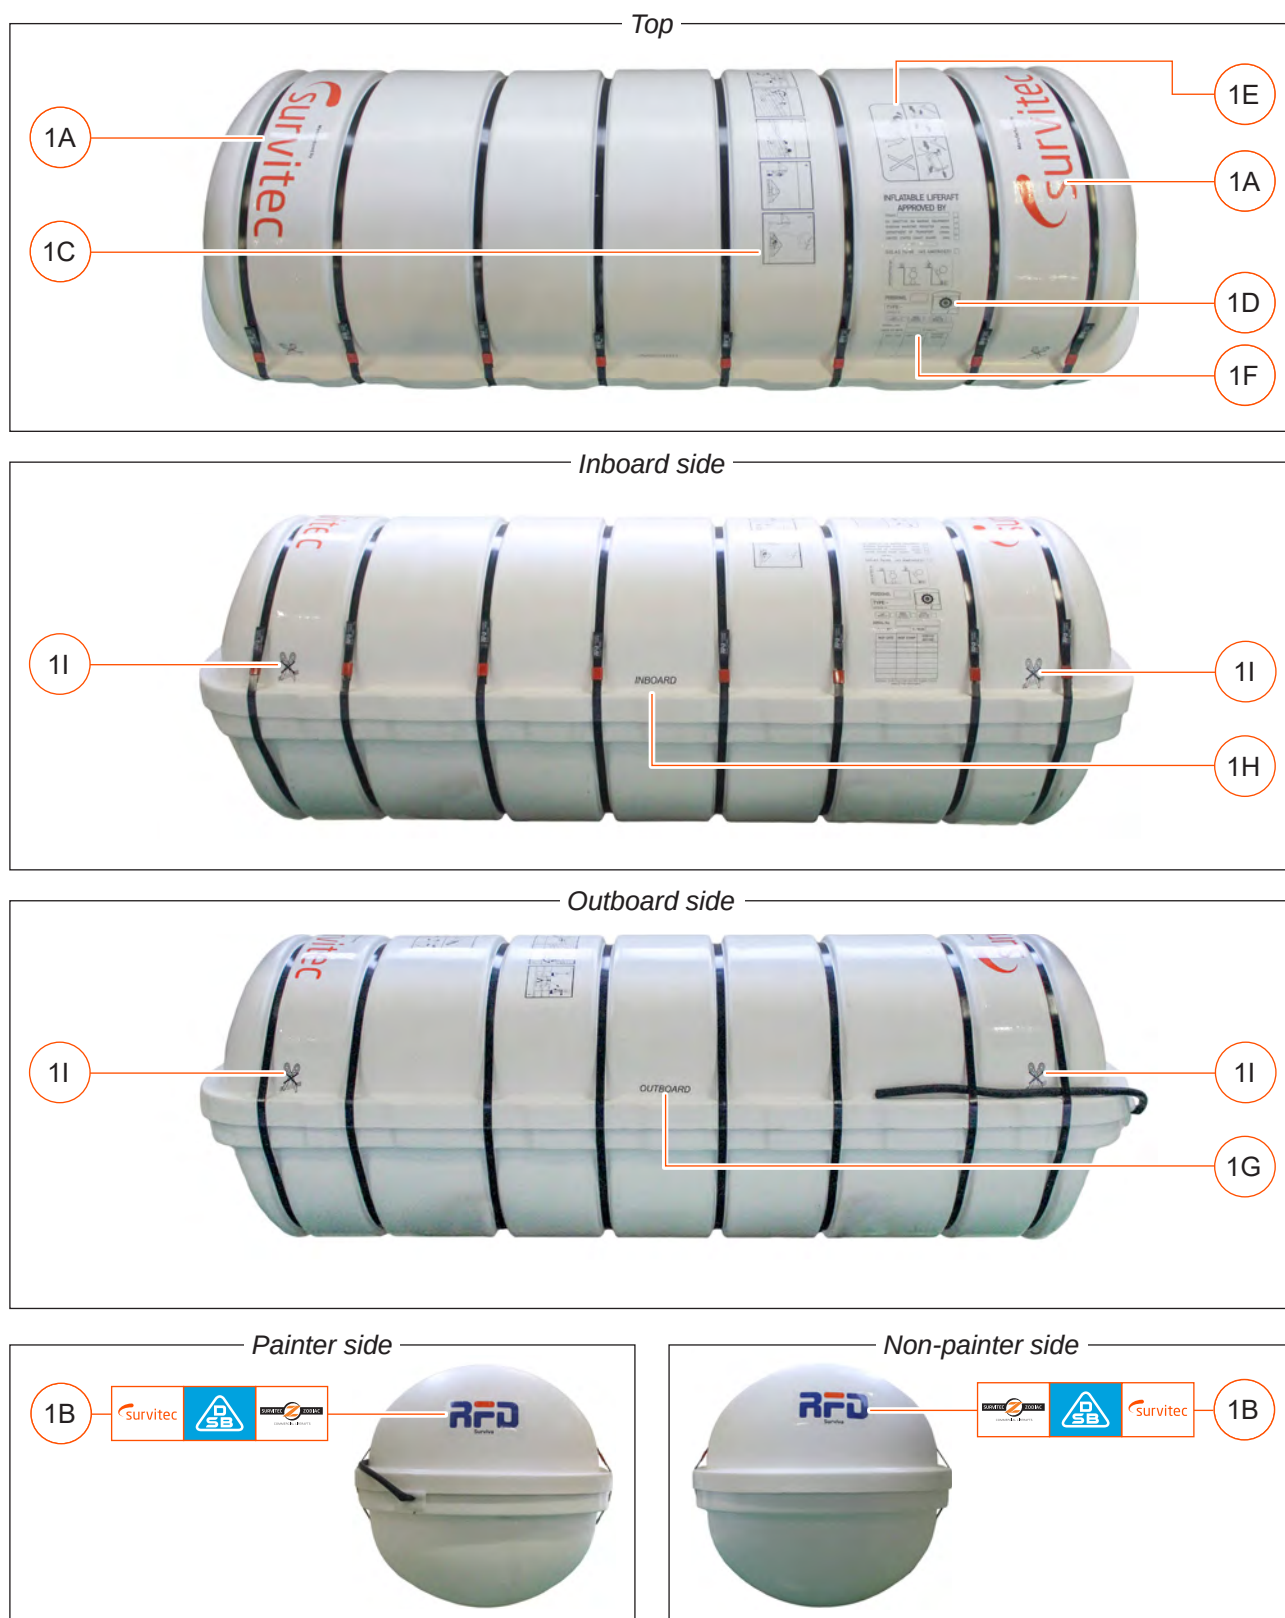

Figure 8
- Mk 10 size 7 and 9. Refer to **Figure 8** for label positions.